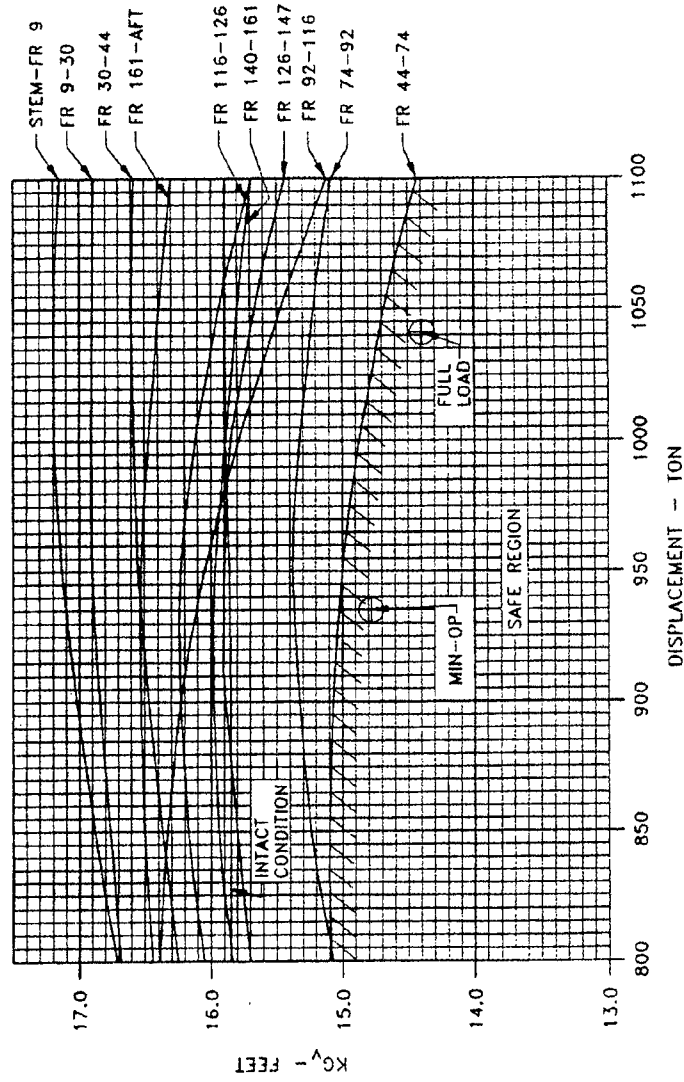

Fig. 7-9 Limiting KG Diagram
- j. An important diagram is the Limiting KG Diagram (**Figure 7-9**). The Limiting KG Diagram present the upper limits of the vertical center of gravity (KG) to ensure the cutter has adequate transverse stability and does not capsize in either intact or damaged conditions. KG, the distance from the keel to the center of gravity, is directly proportional to GM, and is another good measure of stability. The allowable KG diagram assumes several cases of severe damage and then determines the maximum KG the vessel can have and still have sufficient stability. A WLB is reasonably safe as long as its KG plots below of applicable damage condition curves.